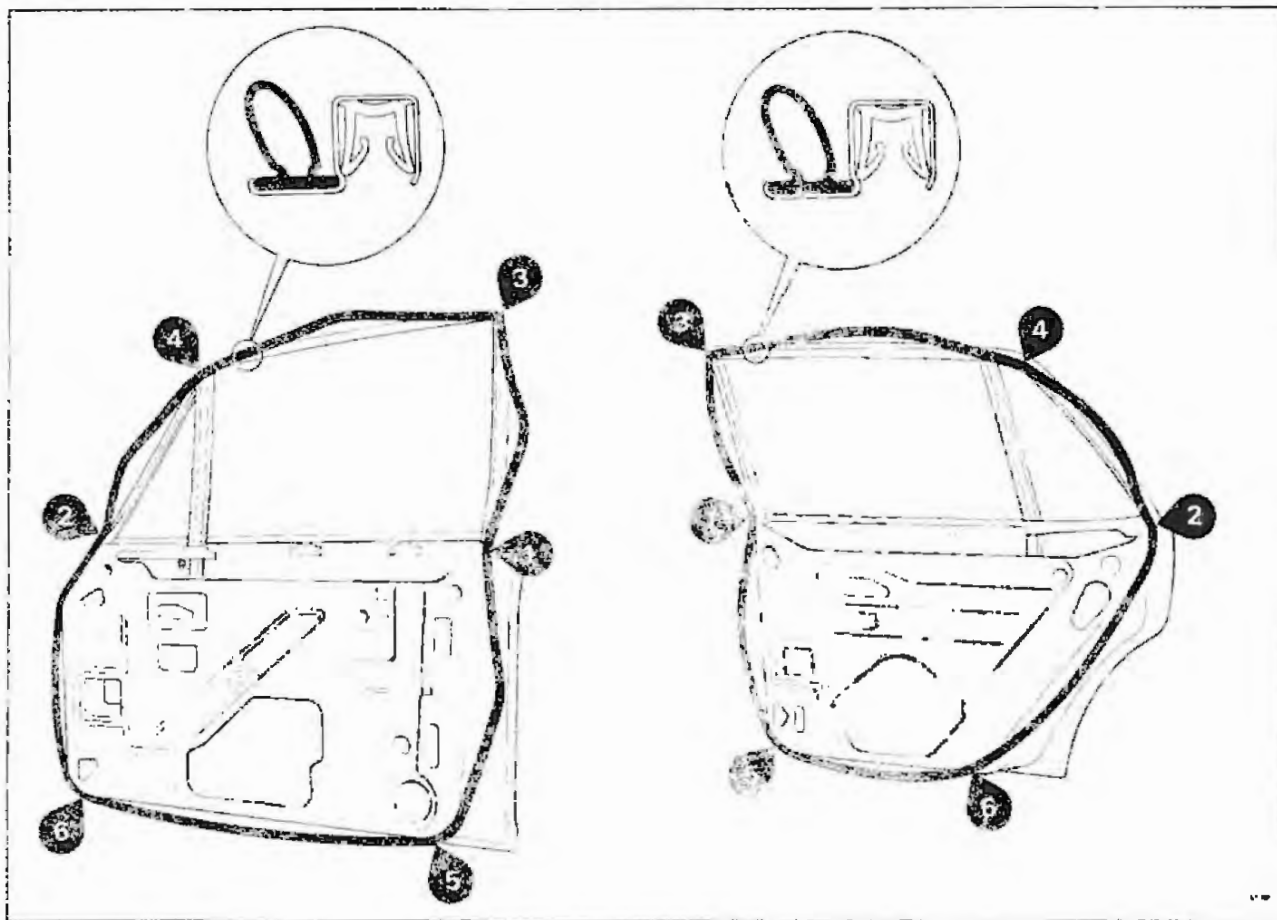
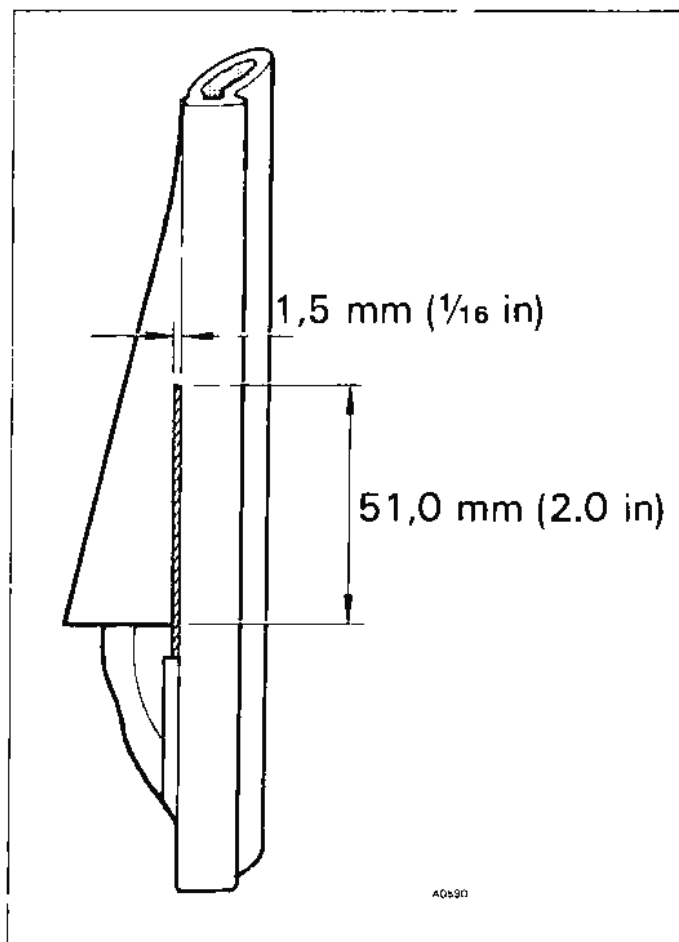

Fig. 1 Door seal location points
Fig. 3 Cutting incisions on the inside of the flanges.
4. Locate the door seal at the points shown in figure 1.
5. At points 1 and 2 (see fig. 1) incisions must be made on the inside of the flanges (see fig. 3). This is to allow the flange of the new seal to fit over the retention plate on the frame.